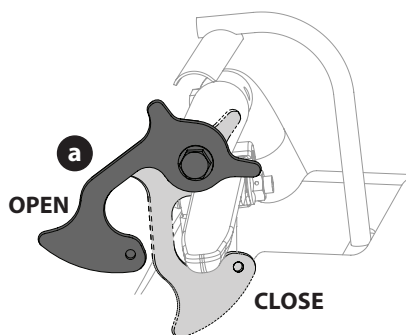

Figure 27
3. Move the neutral lock levers (a) to the OPEN position (Figure 27).
5. Move the neutral lock levers into the CLOSE position (Figure 27).
7. Close the neutral lock levers (Figure 27) and move the speed control lever to verify that there is no creeping. If the mower still creeps, try the adjustment again.